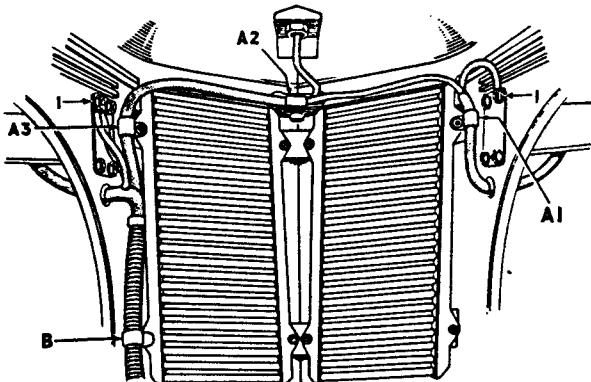

FIG. 6.
"A2" and "A3" for head and side lamp cables, as shown in Fig. 6.
nuts and the side lamp brackets to sides of engine hood by means of the bolts, nuts, spring washers and back plates supplied. One of the side lamp bracket fixing bolts (1), Fig. 6, on each side of tractor must also be utilised for securing the black earth leads on the inside of engine hood. Take care to remove all paint from and around the fixing bolts which secure cables.
- (2) Pass side lamp cables through cable entry holes and rubber grommets.